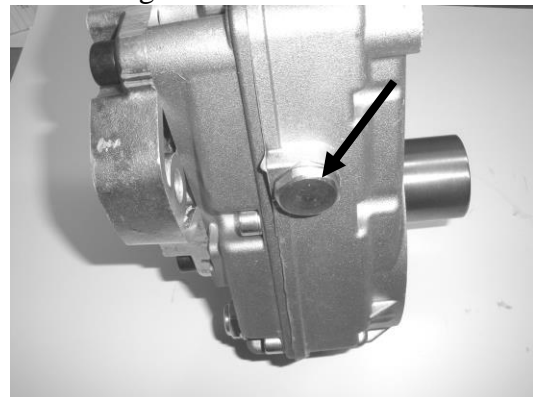

Figure 2—Remove the plug to add lubricant to the increaser.
(**Figure 2**) and add gear lubricant. The recommended lubricant is synthetic 75W-140 gear lube.
5. Remove the fill plug (**Figure 2**).